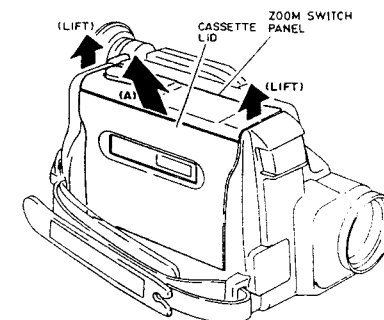

Fig. 2-15
- 3 Lift the zoom switch panel, remove the cassette lid in the direction of arrow (A). (See Fig. 2-15)